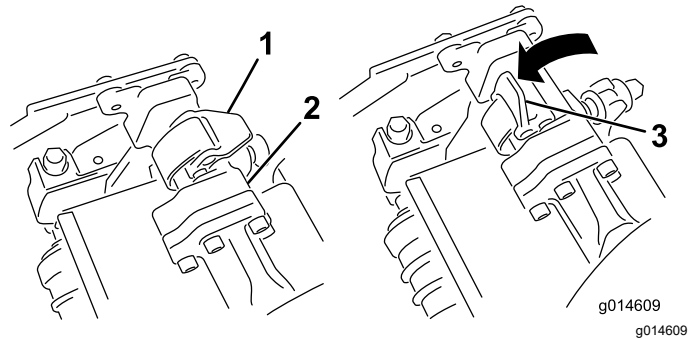
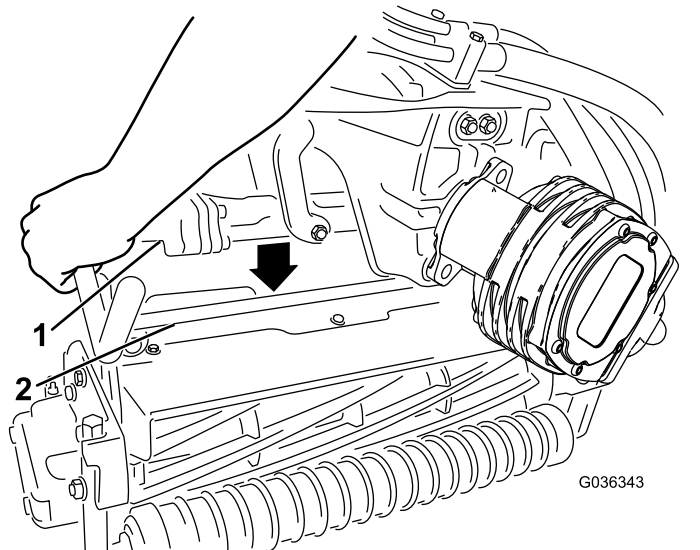

Figure 51
Figure 52
4. With the latches on the suspension-arm bar pointing up (i.e., open) (Figure 51), push the suspension arm down so that the bar fits over the bar across the top of the cutting unit (Figure 52).
- Close the latches down and around the cutting-unit bar and lock them in place (Figure 51).
5. Open the latches on the suspension-arm bar of the cutting unit you are removing (Figure 51).